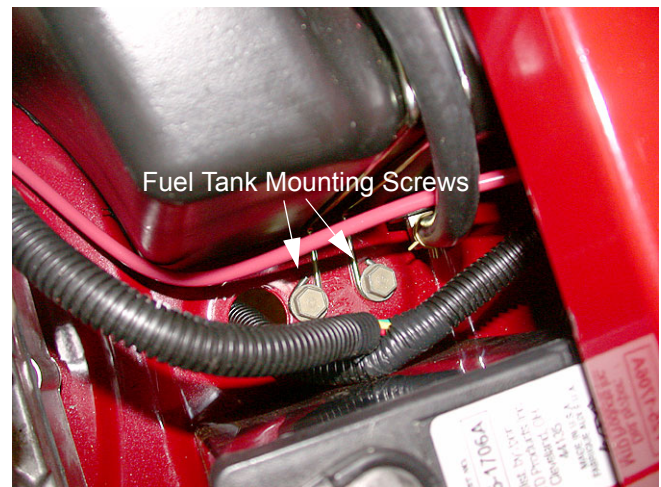

Figure 17.2
- 17.2. Remove the two screws securing the fuel tank mounting wire to the frame using a 1/2” socket. See Figure 17.2.